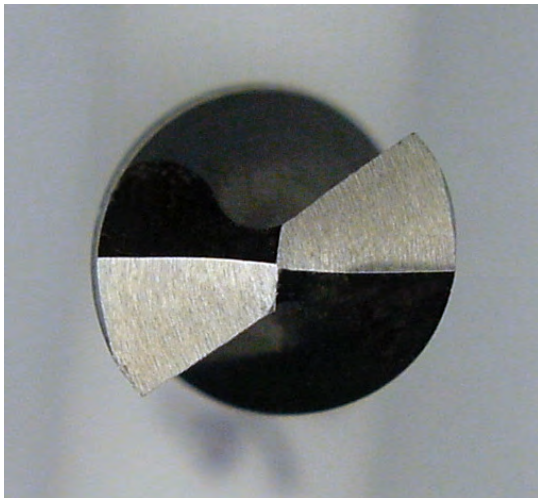

Figure 3-14. A split-point drill. The tip of the point is split into two parts, whose forces tend to draw the drill into the center of rotation.
- **Split-point (also called crankshaft) is required (see Figure 3-14):** A split-point self-centers the drill and resists walking (rolling away from the center). This is opposed to a conventional point, which is more general purpose and can walk. Many other drill point types are available; the acceptable ones for this purpose are the ones that describe themselves as "self-centering."